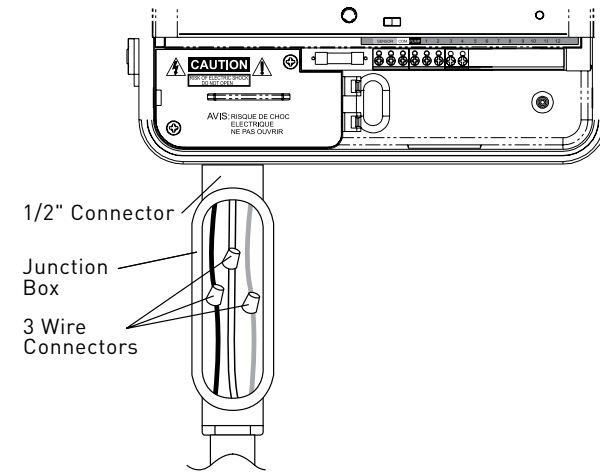

Figure 5: Using a Junction Box
Outdoor Locations – If a covered Ground Fault Interrupter (GFI) outlet is available, insert the power cord into the 110 volt outlet. If no outlet is available, the timer must have the wiring permanently installed (*see figure 5)
- Connect the junction box to the Timer using a 1/2" nipple (Junction box and nipple not included). [See Figure 5] Connect the source power conduit to the entrance of the junction box, following all the appropriate codes.